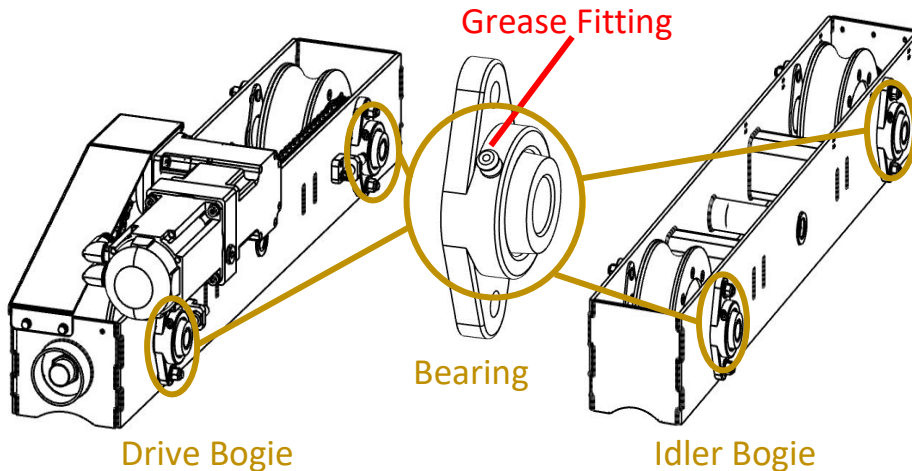

Figure 95: Gantry Bogie Lubrication Points
**Gantry Bogie Bearing Lubrication** – Lubrication of the TyBOT Gantry bogie bearings should occur at 150-hour intervals. There are two bearings attached to each TyBOT bogie wheel assembly (see Figure 95). Each bearing is equipped with a grease fitting. Use a suitable tool such as a grease gun to purge general-purpose lithium-based grease through each bearing.